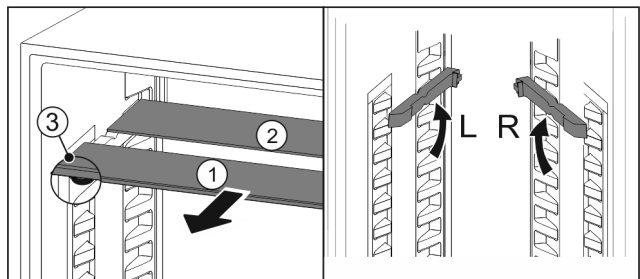

Fig. 86
- ▶ Pull the glass panels out Fig. 86 (1) from the front, one at a time.
- ▷ The glass panel Fig. 86 (1) and trim strip are at the front.
- ▷ The stops Fig. 86 (3) point down.